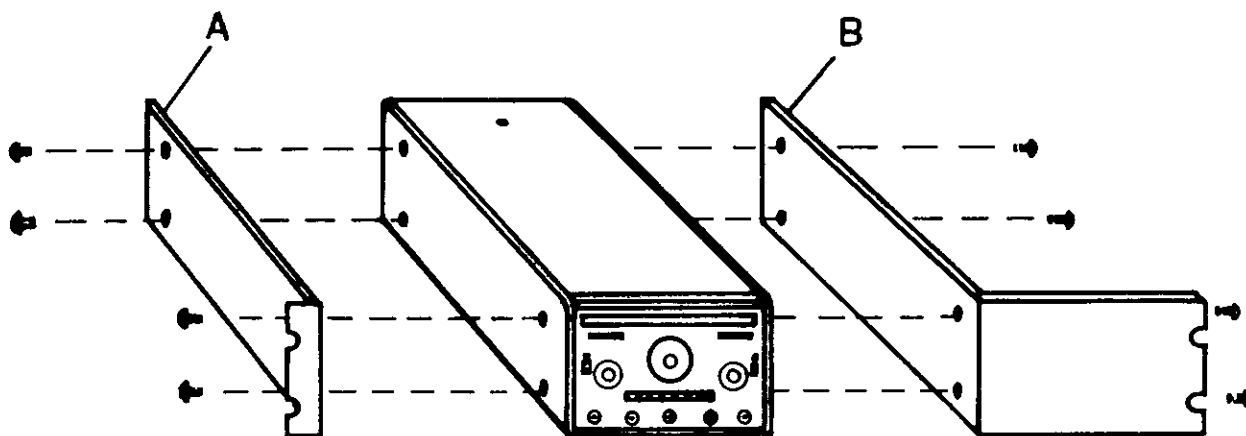

Figure 2-1. K-103 Rack Mounting
- c. Rack Mount Kit — K103. Mounts single instruments in a 5-1/4 inch space. See Figure 2-1.
#### 2.1.4 K-103, Rack Mounting Kit (Refer to Figure 2-1)